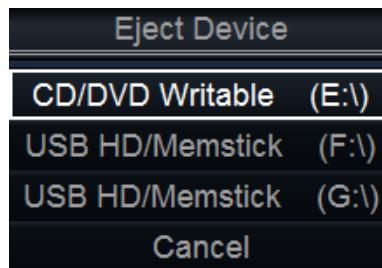

Figure 3-7. The Eject device menu
**NOTE:** Do not eject CD/DVD using the button on the CD/DVD drive. The *Eject device* menu is displayed (Figure 3-7).